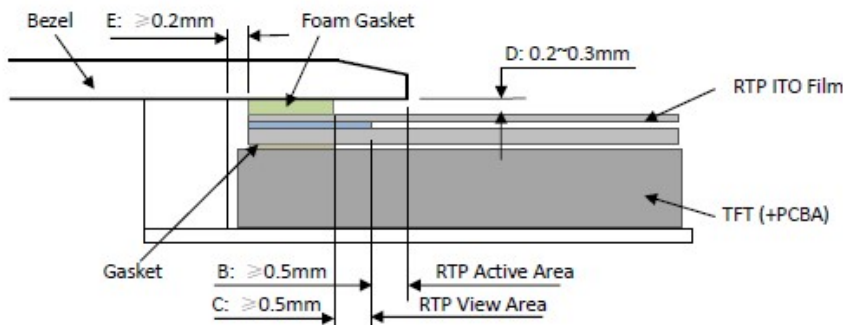

Figure 4
- It should bezel touching the RTP Active Area (A.A.) to prevent abnormal touch. It should left gap $D=0.2\sim 0.3\text{mm}$ in between. (Figure 4)
- 为避免面框直接压在动作区 (A. A.) 上造成误动作，面框与电阻触摸屏 (RTP) 之间应留有一定的空隙 $D=0.2\sim 0.3\text{mm}$ 之间。(附图 4)
It is suggested to protect those areas with gasket (between the bezel and RTP). The suggested figures are $B \geq 0.50\text{mm}$; $C \geq 0.50\text{mm}$. (Figure 4)
- The bezel side wall should keep space $E = 0.2 \sim 0.3\text{mm}$ from the RTP. (Figure 4)
之间垫缓冲物 (Gasket)，我们建议设计面框应覆盖动作区的边缘，面框边缘到 V. A. 区的距离 $B \geq 0.50\text{mm}$ ；垫圈内边缘到 V. A. 区的距离 $C \geq 0.50\text{mm}$ 。 (附图 4)
- 在设计面框与 RTP 组装时，应考虑到面框内侧与 RTP 外侧的间距 $E \geq 0.2\text{mm}$ 。 (附图 4)